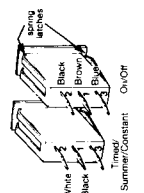

Fig. 47
**8.22.49** Replace electrical connections. Refer to fig. 47 to ensure correct locations.
Refer to fig. 47
**8.22.52** To replace refer to fig 47 to ensure switch is in correct attitude and press into hole from the front until spring tabs latch. Refer to fig. 47 for correct wiring details.